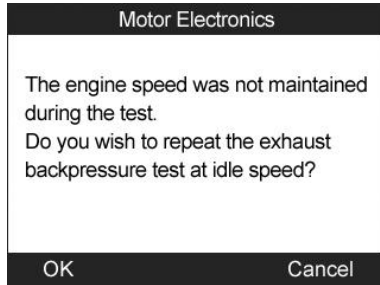

Figure 14.41
- If the engine is not running at idle speed, the tool will display a warning message. (Figure 14.41) Select **OK** to repeat the test or select **Cancel** to exit.